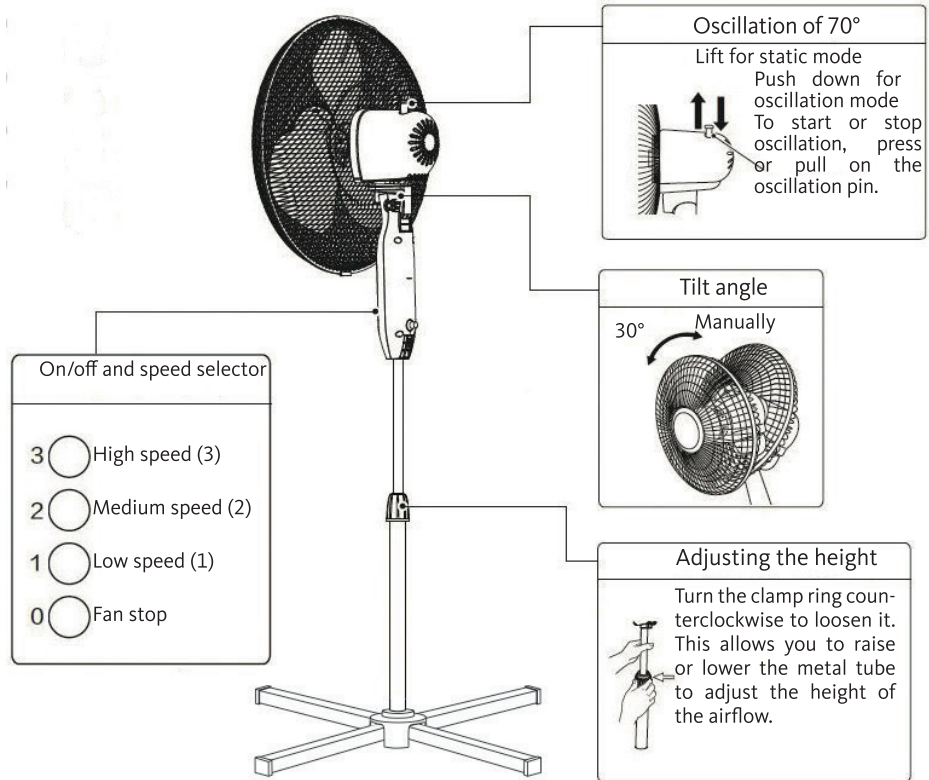

Figure 3
ASSEMBLING THE HEAD, PROPELLER (FIGURE 2) AND GUARDS (FIGURE 3)
1. Using a Phillips screwdriver, loosen the screw (E) at the bottom of the motor assembly (H), place the motor assembly on the telescopic tube (G) and tighten the screw (E) until the motor assembly is securely attached to the tube.
2. Place the rear guard (I) on the shaft (J) of the motor assembly. The handle must face upwards.
3. Tighten the plastic nut (K) to secure the rear guard (I).
4. Place the propeller (L) on the spindle (J). Secure the propeller with the nut (M). Turn it counterclockwise. Make sure that the blades can rotate freely.
5. Using the screw (O) supplied in the bag, place the front guard on the rear guard (I), then match the small round holes so that the closing screw (O) passes through both guards.
6. Attach the front (N) and rear (I) guards using 4 fixing clips (P) (see figure 3 below), then use a screwdriver to tighten the closing screw (O).